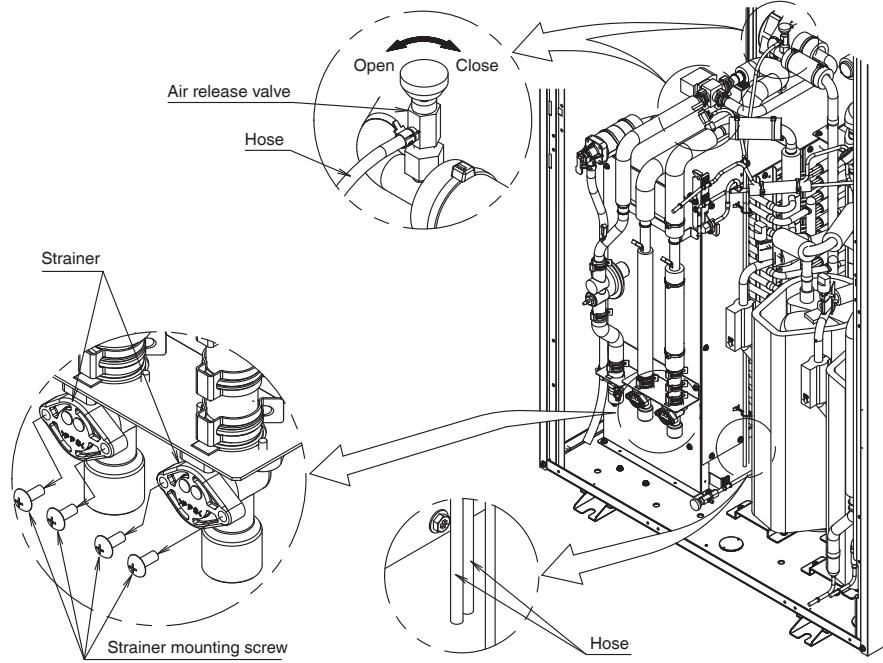

Fig. 36
- (1) Open the front panel (lower).
- (2) Open the gate valve of the circulating water piping and hot water piping between the cascade unit and the hot water storage tank to allow water to flow through the machine.
- (3) Open both air release valves (refer to Fig. 36) to release air from the water piping in the cascade unit.
- (4) After releasing air, be sure to close the valve.